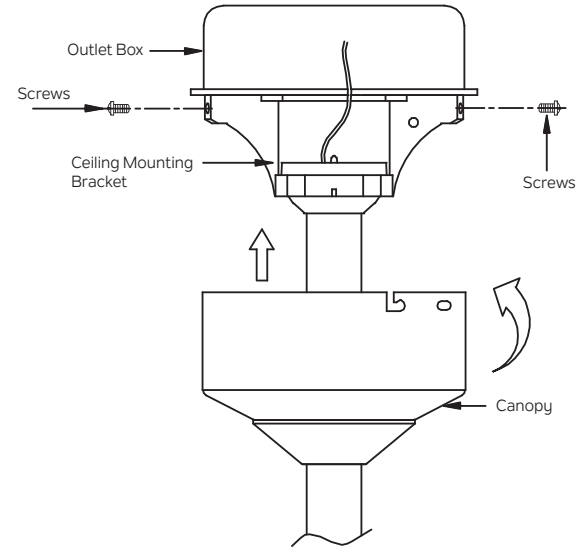

Fig. 17
Step 2. Slide the canopy up to ceiling and attach the canopy to the ceiling mounting bracket using 4 screws at the top edge of the mounting bracket. Insert each screw through the canopy mounting hole and into the mounting bracket. Tighten all screws securely. (Fig. 17)